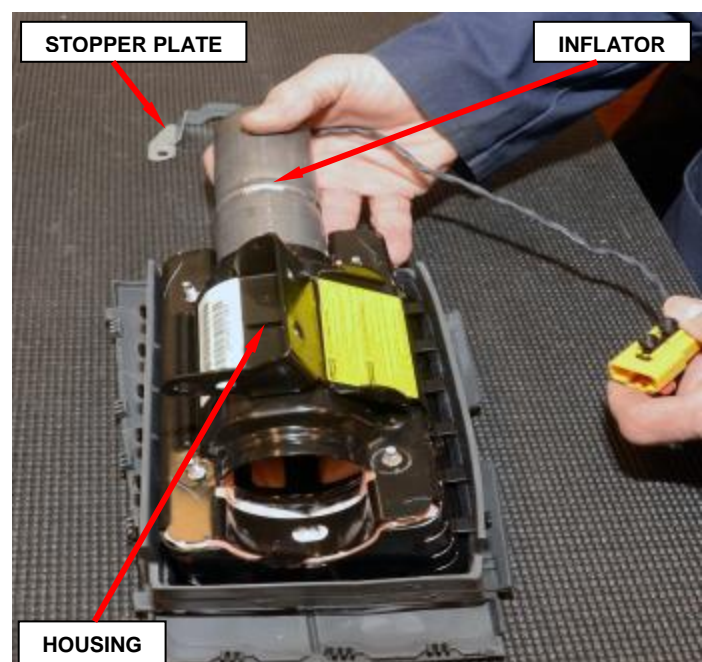

Figure 19 – Inflator Removal
f. Slide the inflator out of the housing (Figure 19).